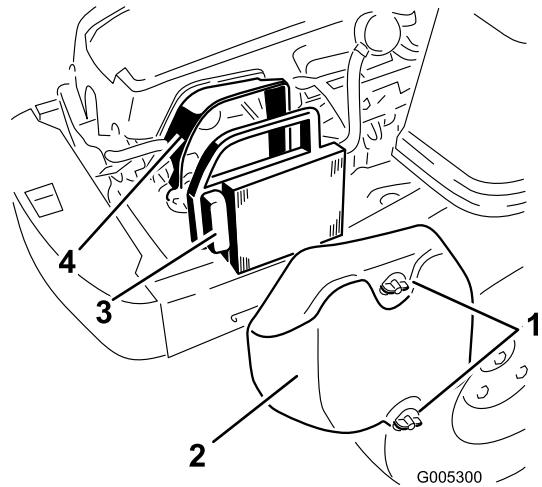

Figure 24
1. Remove the air cleaner cover (Figure 24).
2. Remove the air cleaner element with the integral rubber seal (Figure 24).
- Install the air cleaner element with the pleated side “out” and seat the rubber seal onto the edges of the air cleaner base (Figure 24).
- Reinstall the air cleaner cover and secure with the two knobs (Figure 24).